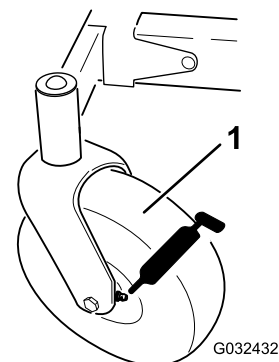

Figure 30
3. Clean the grease fittings (Figure 30) with a rag.
4. Connect a grease gun to each fitting (Figure 30).